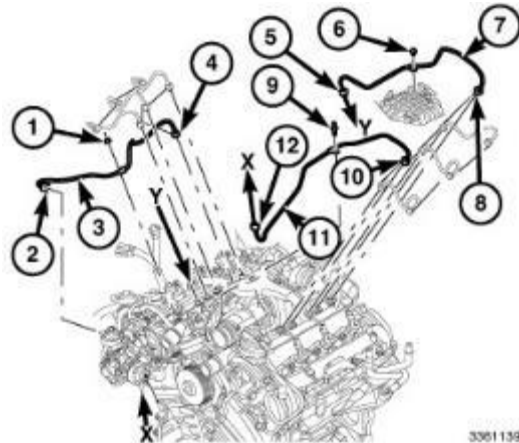

Figure 47 - Fuel Tubes and Nuts
19. Remove the nut (1) securing the right high-pressure fuel tube (3) to cylinder head cover (Figure 47).
20. Remove the union nuts (2) and (4) and the right high-pressure fuel tube (3), discard the fuel tube (Figure 47).
21. Remove the bolt (6) securing the high-pressure crossover fuel tube (7) to top of intake manifold (Figure 47).
22. Remove the union nuts (5) and (8) and the high-pressure crossover fuel tube (7), discard the fuel tube (Figure 47).
23. Remove the bolt (9) securing the left side fuel tube (11) to EGR air flow control valve (Figure 47).
24. Remove the union nuts (10) and (12) and the left high pressure fuel tube (11), discard the fuel tube (Figure 47).